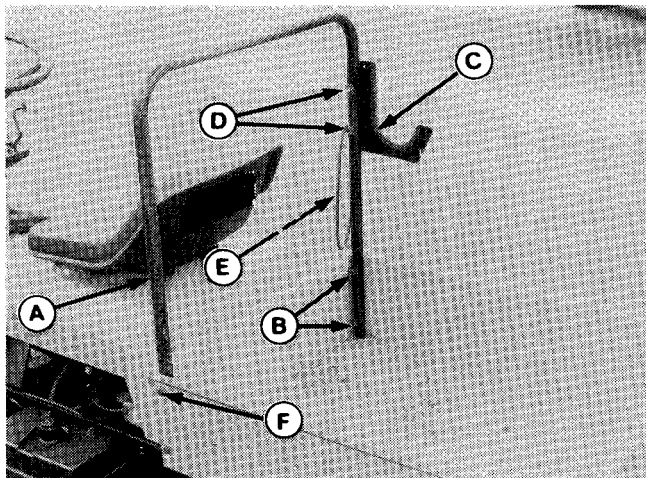
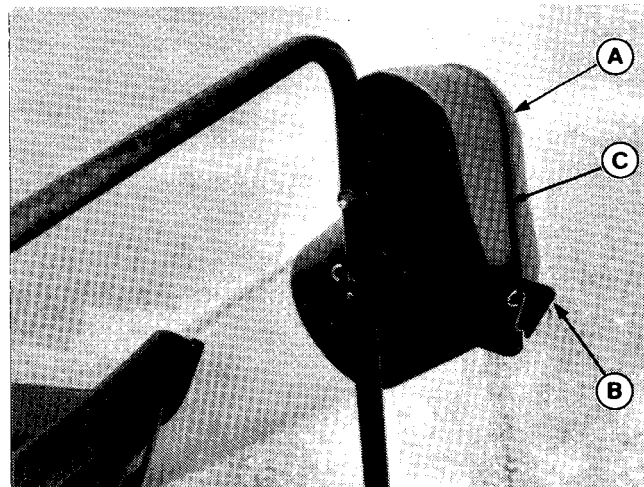

Figure 20.
Figure 23. (Shown without cover for clarity.)
1. Install the frame (A, figure 20) at four locations (B) with 5/16-18 x 1-1/2 capscrow, washer and nut. Install spacers (F) at top capscrow on each side.
2. Attach the bracket (C, figure 20) with two 5/16-18 x 1-3/4 bolts (B), washers and nuts. Attach strap (E) with lower set of hardware.
5. Pick up the cover and place down onto the frame (A, figure 20) inserting the elbow (A, figure 23) into the bracket (B) (shown without cover for clarity). Pull the rubber strap (C) over the elbow and hook into bracket as shown.